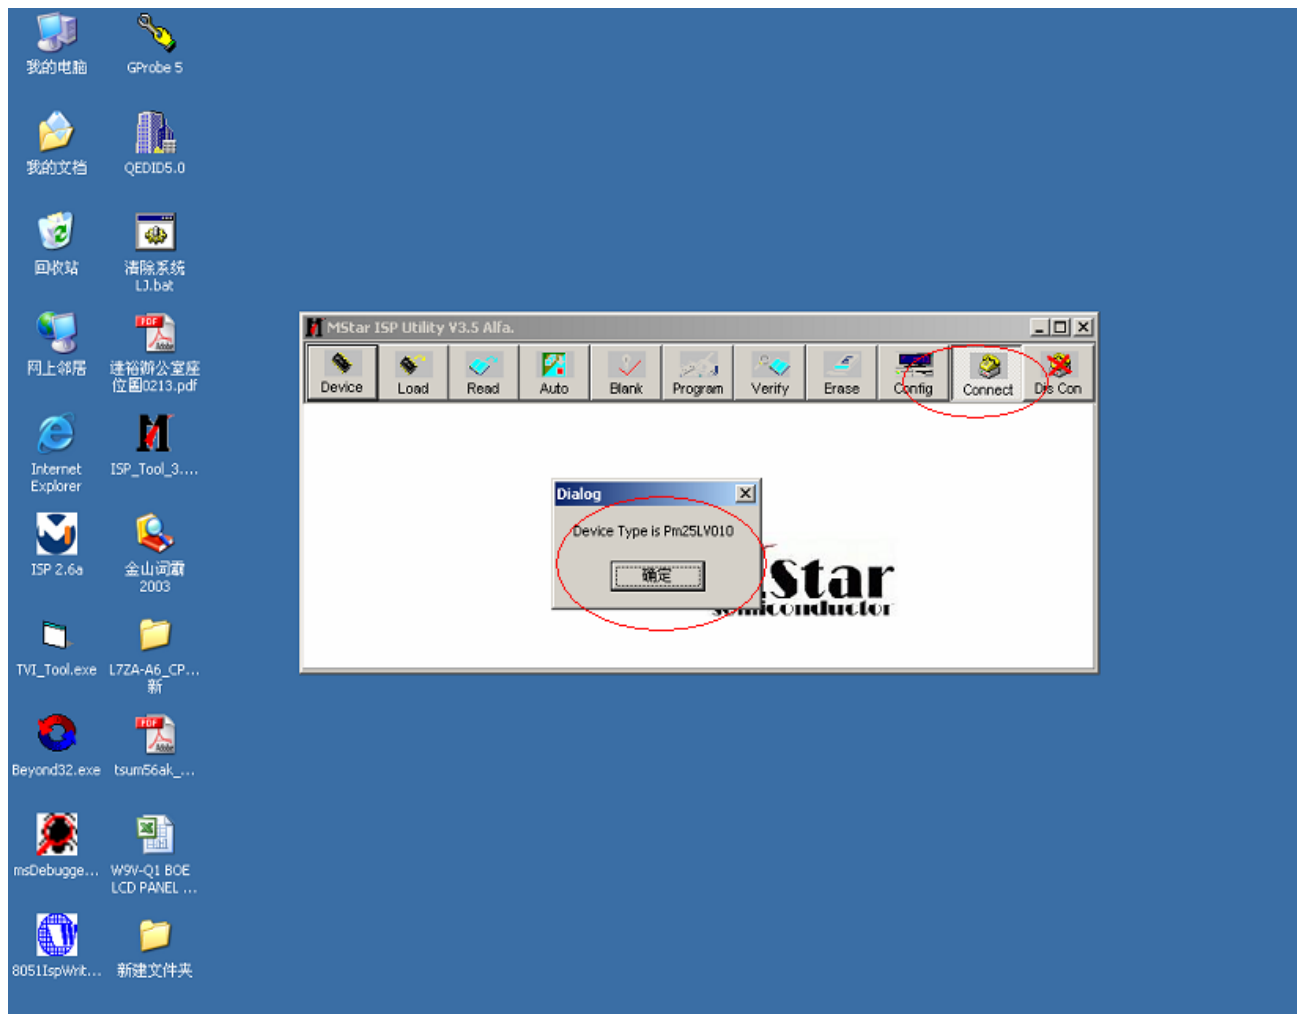

Fig. 1.3
1.3 Single-click the “**Connect**” button to connect with MCU. The dialog of “O.K.” will appear in window, when the computer has finished to connect with MCU, see Fig 1.3